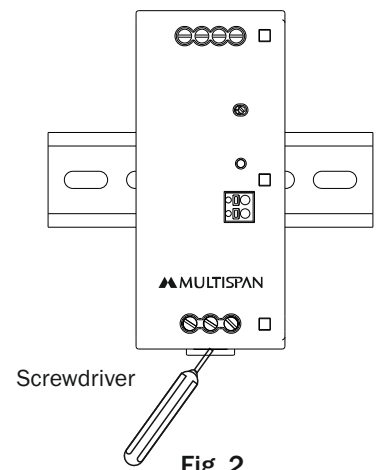

Fig. 2
- To remove the power supply unit, insert a screwdriver into the clamp at the bottom, as per Fig. 2.